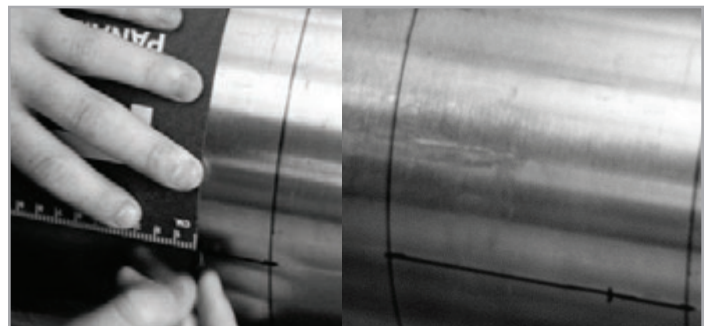

Figure 35: Measuring and marking spacing
1. Measure the spacing from the zero point (the point of circumferential origin). Mark the spacing point with a crosshair on the opposite side of the pipe, 180° from the zero point (as shown in Figure 35 below).